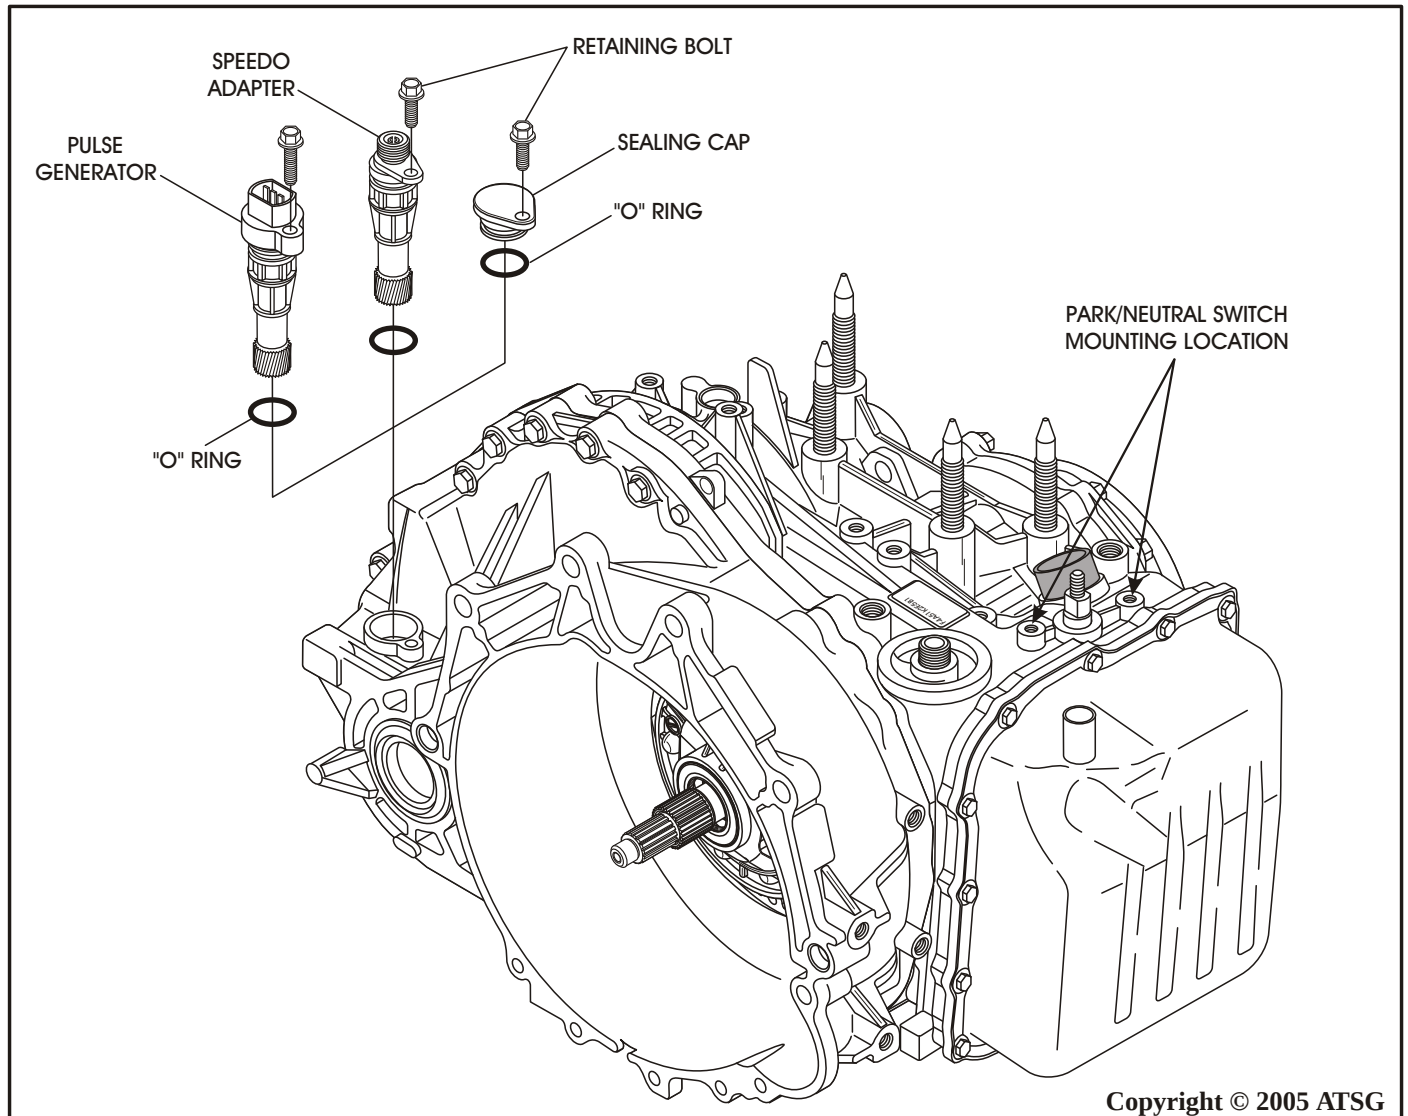

Figure 25
10. Remove the speedometer adapter, the pulse generator, or the sealing cap, depending on which the transaxle is equipped with. Refer to Figure 25.
12. Remove the manual control lever nut, manual control lever and P/N position switch from the transaxle case, as shown in Figure 25.